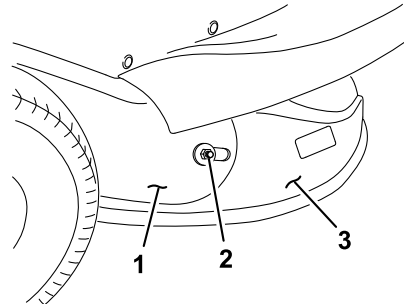

Figure 19
7. Remove the nut and outer washer that secure the discharge chute to the discharge tube (Figure 19).
13. Install the nut and outer washer that secure the discharge chute to the discharge tube (Figure 19).